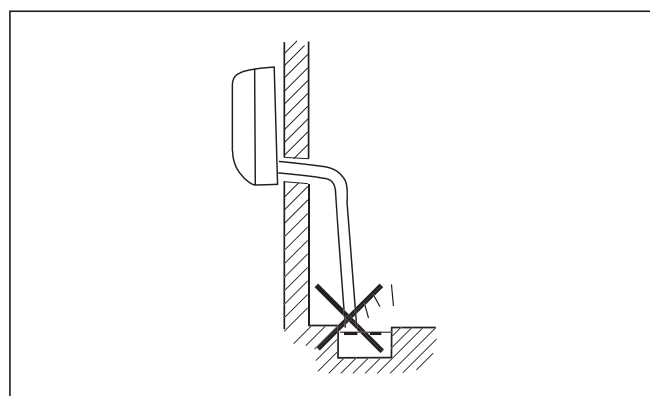

Fig. 9.6 Avoids unpleasant odours.
- Install the condensed water pipe in such a way that its free end is kept away from unpleasant odours, such as from open drains, to ensure that they are not drawn back into the unit (see Figure 9.6).